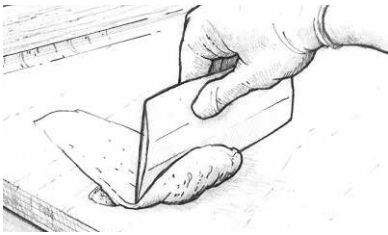

Figure 22 Apply fairing compound to fill all voids and smooth to shape.
4. Trowel on the thickened epoxy mixture with a plastic spreader, working it into all voids and depressions. Smooth the mixture to the desired shape, leaving the mixture slightly higher than the surrounding area (Figure 22). Remove any excess thickened epoxy before it cures. If the voids you are filling are over ½" deep, apply the mixture in several applications or use 206 Slow Hardener® or 209 Extra Slow Hardener™, depending on ambient temperature.